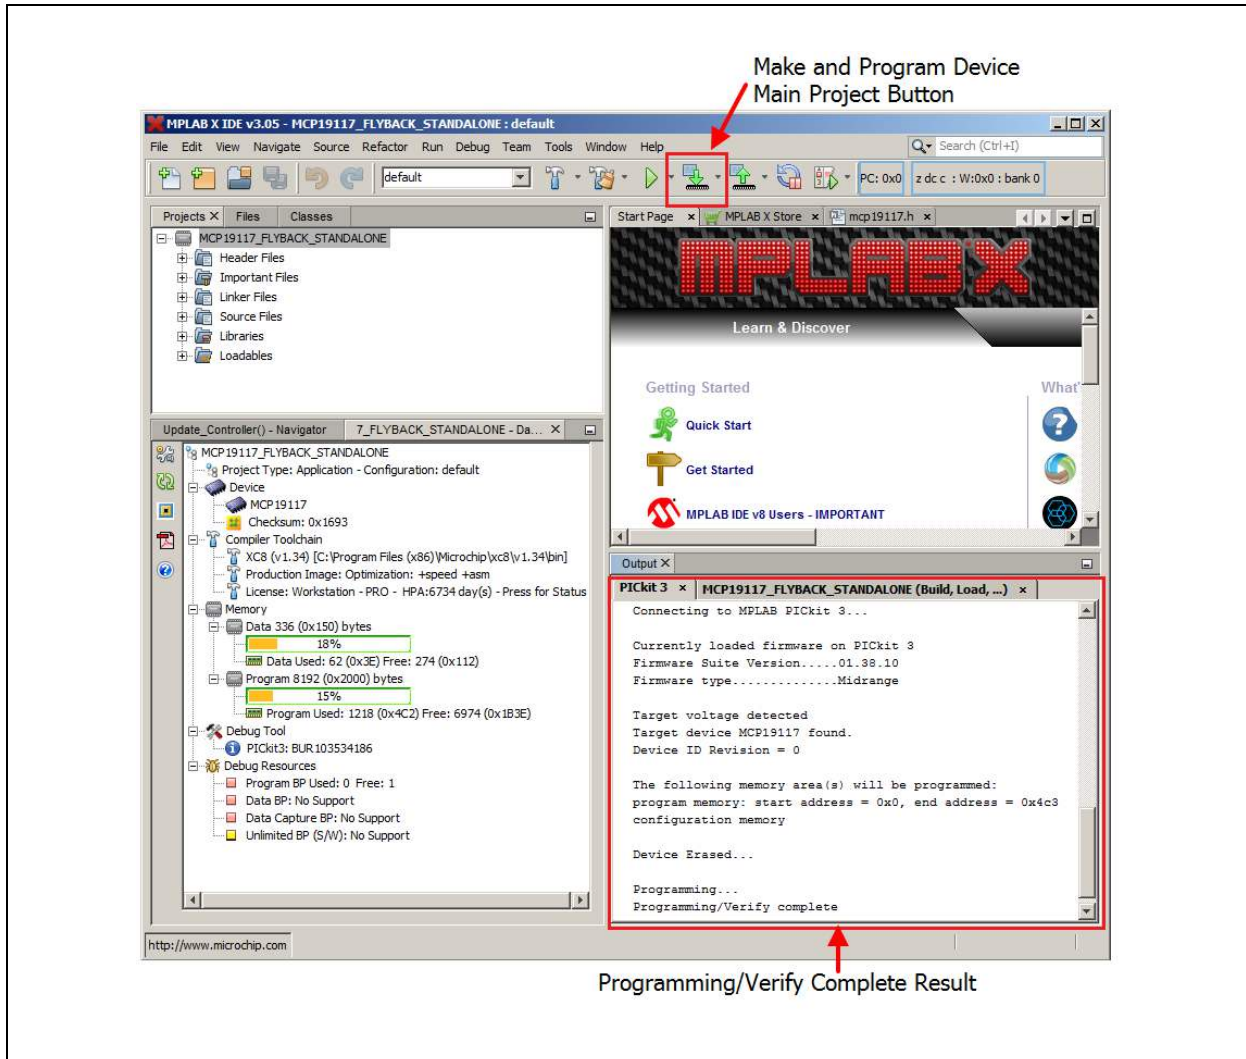

FIGURE 2-6: *Selecting and Executing the Make and Program Device Main Project in MPLAB X IDE.*
- When the project is open, click the **Make and Program Device Main Project** button on the tool bar to program the device. Wait until the program process is complete (see Figure 2-6).